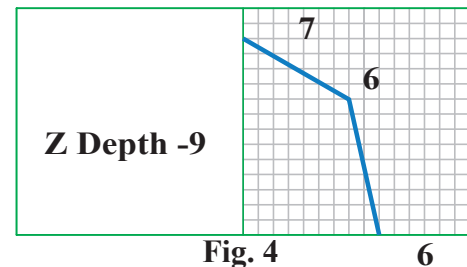

Fig. 4
Step 4. Sketch the **two lines**, Fig. 4. When done click **OK** and **Create New Operation**  in the Line Endpoints function panel.